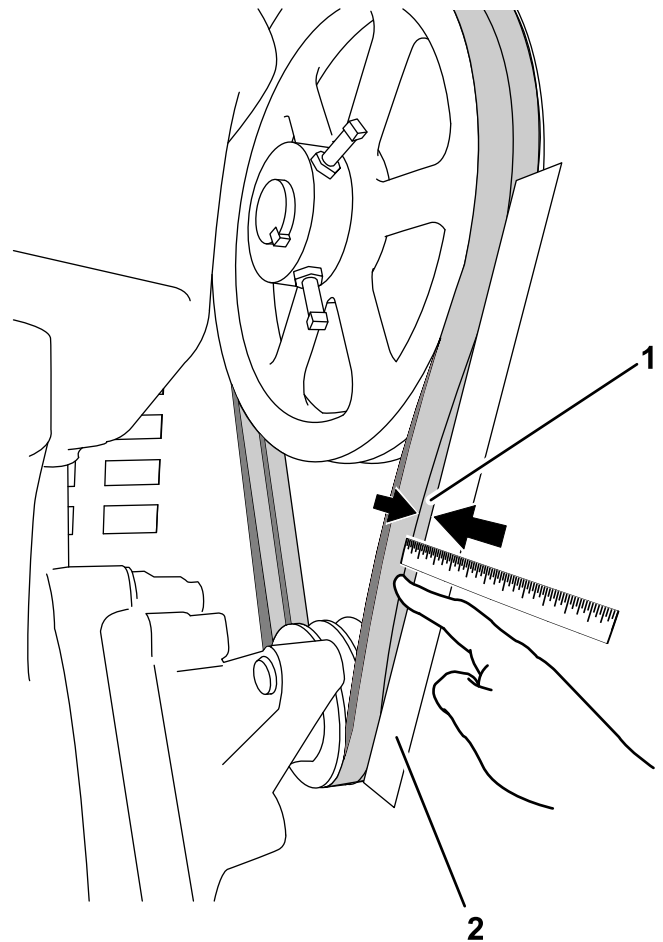

Figure 55
The drive belts should each have 1 cm (13/32 inch) of flex when applying 6.8 kg (15 lb) of pressure, at mid-span (Figure 55).
5. Lay a straightedge along 1 drive belt, from 1 pulley to the other (Figure 55).
6. With your finger, push on the belt with 6.8 kg (15 lb) of pressure, midway between the pulleys (Figure 55).
7. Measure the distance from the belt to the straightedge. The distance should be approximately 1 cm (13/32 inch) as shown in Figure 55.